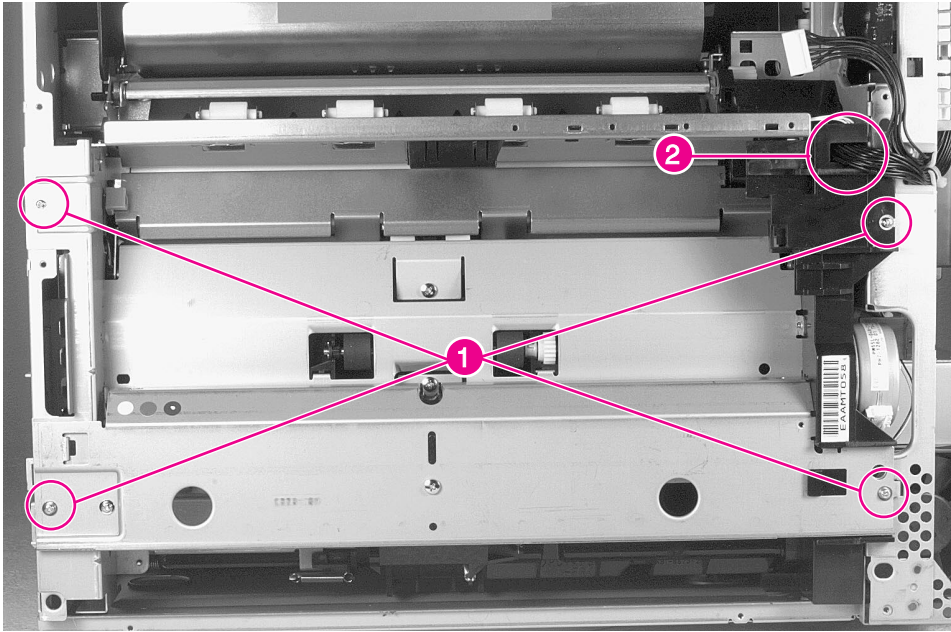

Figure 6-42 Paper Input Unit
- Paper Input Unit (PIU) (see figure 6-42 on page 210)
- 5 Remove 4 screws (figure 6-42, callout 1).
- 6 Slide the assembly out from the chassis approximately 3 inches, and unplug the connector inside the right end (figure 6-42, callout 2).